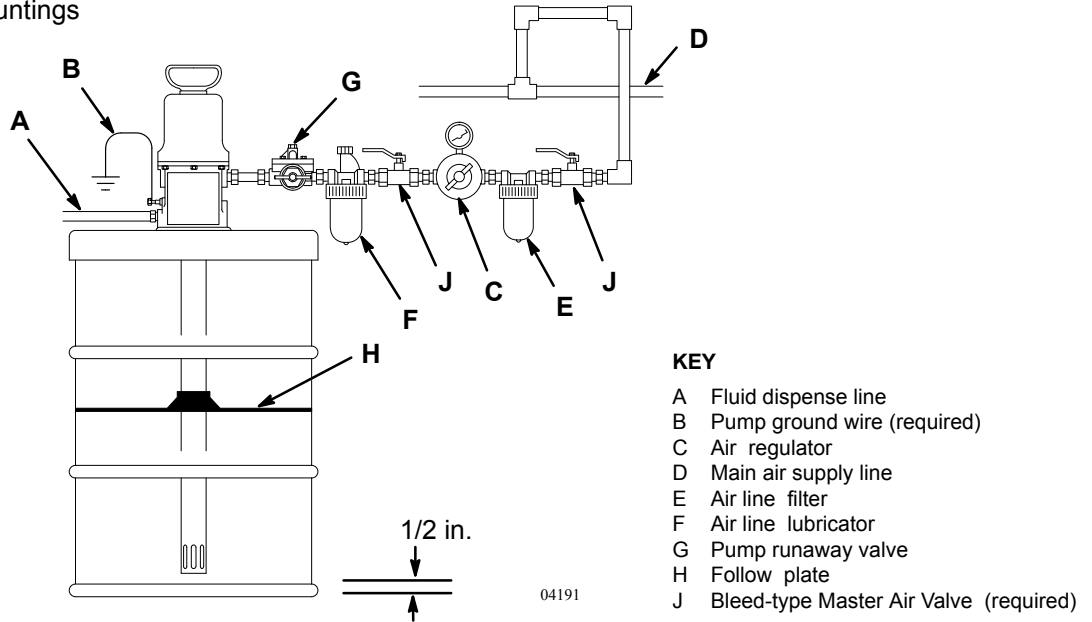

Fig. 1
Refer to Figure 1 above.
**NOTE:** Install the air line accessories in the order shown in Figure 1.
1. Install a pump runaway valve (G) to shut off the air to the pump if the pump accelerates beyond the pre-adjusted setting. A pump which runs too fast can be seriously damaged.
2. Install an air line lubricator (F) for automatic air motor lubrication.
3. Install a bleed-type master air valve (J) to relieve air trapped between the valve and the motor (see **WARNING** at left). Order Part No. 107-142.
4. Install the air regulator (C) to control pump speed and pressure.
5. Install an air line filter (E) to remove harmful dirt and contaminants from your compressed air supply.
6. Install a second bleed-type master air valve (J) upstream from all other accessories, to isolate the accessories for servicing.